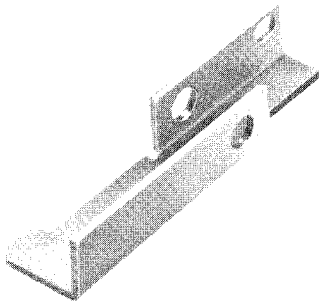

Fig. 4—743A Drilling Template
- 743A drilling template (Fig. 4)